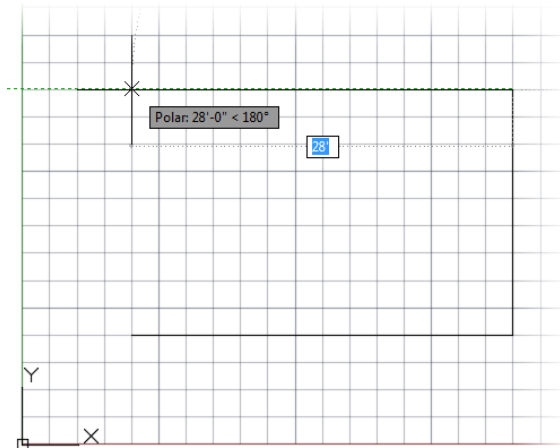

FIGURE 3.14: Drawing the second and third wall lines
- Move the crosshair cursor directly left of the last point picked until the dashed linear dimension displays 28' (8550) and the dashed angular dimension displays 180.00°, and then pick that point (see Figure 3.14).